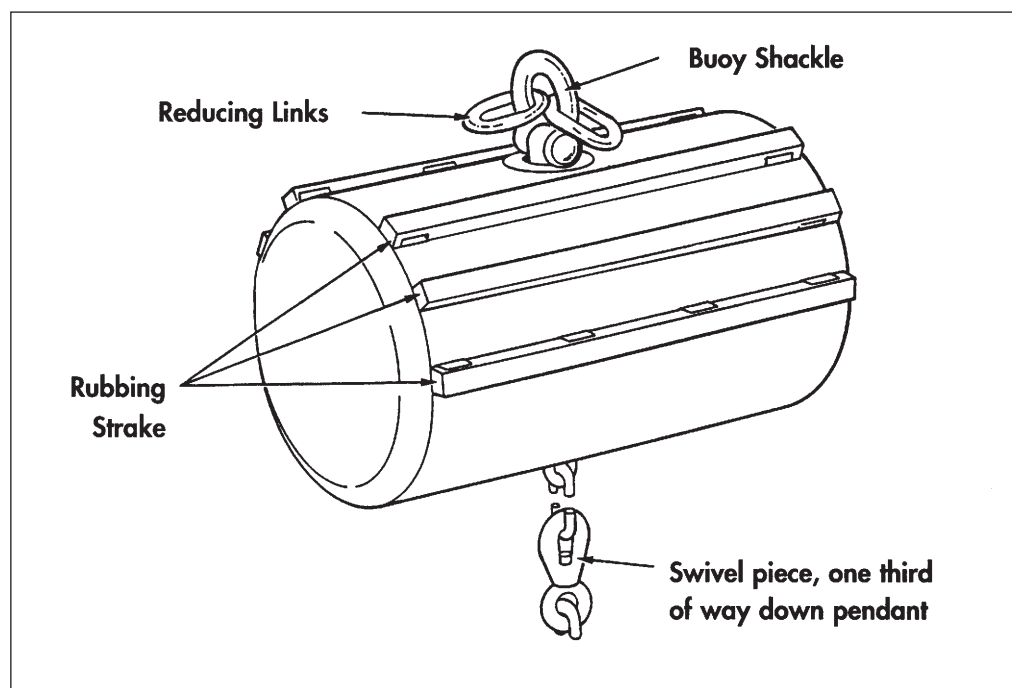

Figure 7.7-1 - Standard Mooring Buoy
c. The purpose of the mooring buoy, as shown in figure 7.7-1, is to support the weight of the riser pendant. It is usually cylindrical in shape and constructed of steel. It is divided into watertight compartments. The riser pendant passes up through a central trunk in the buoy and is attached to a large external ring or buoy shackle. Smaller reducing links are fitted to the buoy shackle to accommodate the ship-to-buoy shackle.